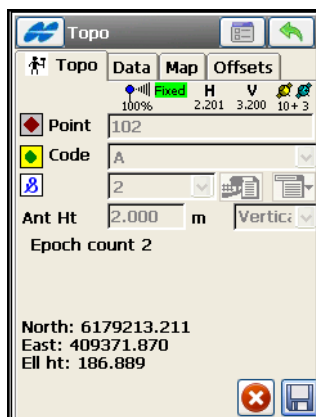

Figure 9-6. Topo – Accept
- *Note* – opens the **Note** screen (Figure 9-6 on page 9-6).
The *Topo* tab on the Topo screen (Figure 9-6 on page 9-6) contains the initial data for the survey and displays the progress of data collection (Figure 9-2 on page 9-2).
-  – starts the measurement process. After pressing this button, a new cancel button  appears along with the counter of the epochs collected (Figure 9-6).